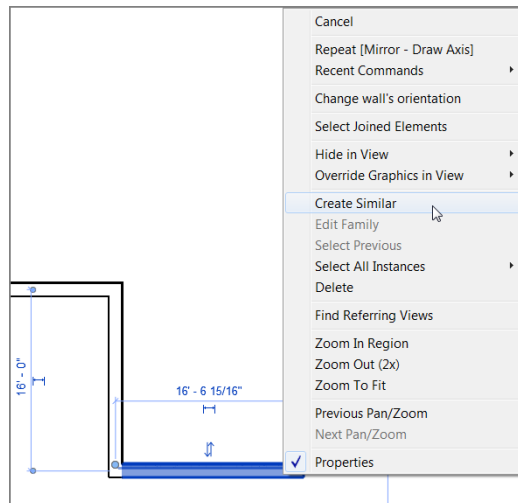

FIGURE 1.29: You can select any item in Revit and create a similar object by right-clicking and selecting **Create Similar**.
5. Select **Create Similar**, as shown in Figure 1.29.